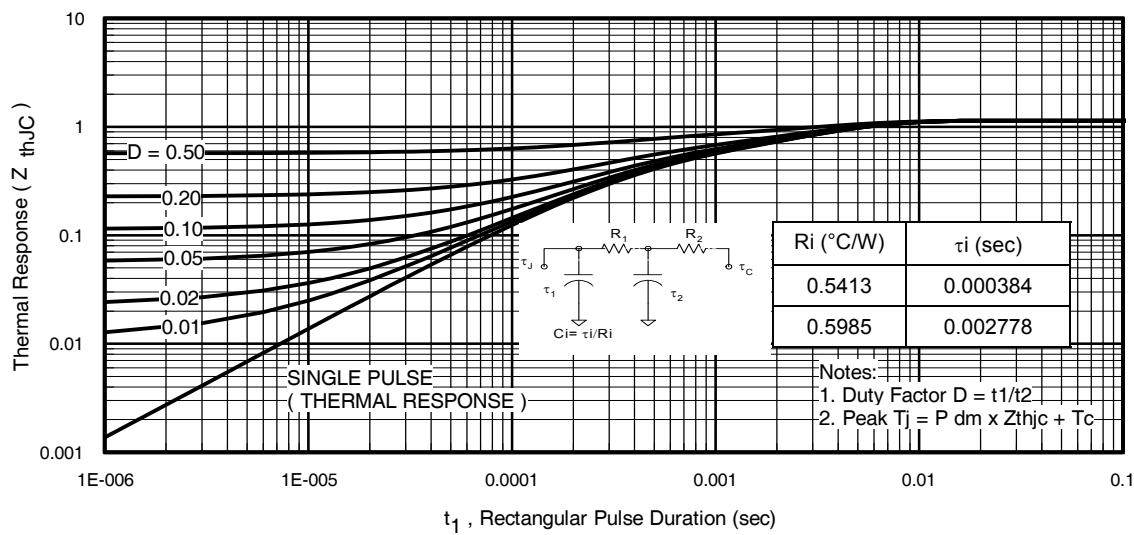
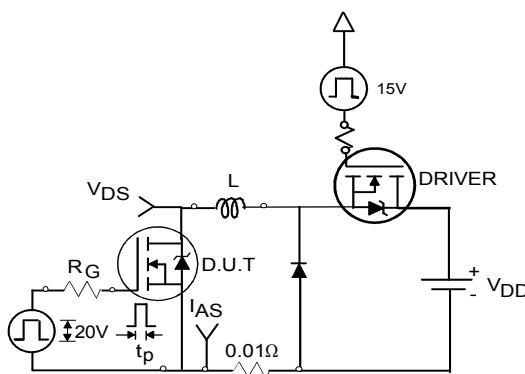

Fig 11. Maximum Effective Transient Thermal Impedance, Junction-to-Case
Fig 12a. Unclamped Inductive Test Circuit
- ① Repetitive rating; pulse width limited by max. junction temperature. (See fig.11)
- ② Limited by $T_{J\text{max}}$, starting $T_J = 25^\circ\text{C}$, $L = 0.09\text{mH}$, $R_G = 25\Omega$, $I_{AS} = 52\text{A}$, $V_{GS} = 10V$. Part not recommended for use above this value.
- ③ Pulse width $\leq 1.0\text{ms}$; duty cycle $\leq 2\%$.
- ④ $C_{oss \text{ eff.}}$ is a fixed capacitance that gives the same charging time as C_{oss} while V_{DS} is rising from 0 to 80% V_{DSS} .
- ⑤ Limited by $T_{J\text{max}}$, see Fig.12a, 12b, 15, 16 for typical repetitive avalanche performance.
- ⑥ This value determined from sample failure population 100% tested to this value in production.
- ⑦ This is only applied to TO-220AB package.
- ⑧ This is applied to D² Pak, When mounted on 1" square PCB (FR-4 or G-10 Material). For recommended footprint and soldering techniques refer to application note #AN-994
- ⑨ R_0 is measured at T_J of approximately 90°C
- ⑩ Calculated continuous current based on maximum allowable junction temperature. Bond wire current limit is 75A. Note that current limitations arising from heating of the device leads may occur with some lead mounting arrangements.
3. Equation below based on circuit and waveforms shown in Figures 12a, 12b.